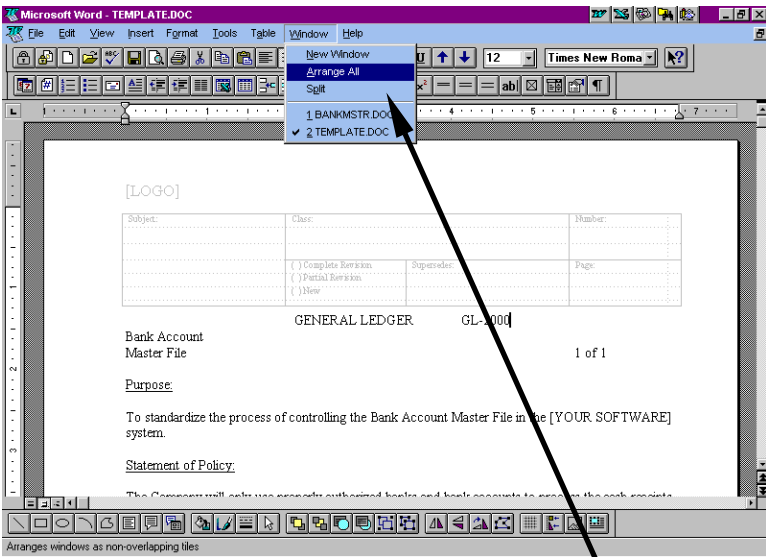

Figure 18
11. Select **Window|Arrange All** to show the two files simultaneously on the monitor. See Figure 18 for a view of the **Window|Arrange All** menu item.